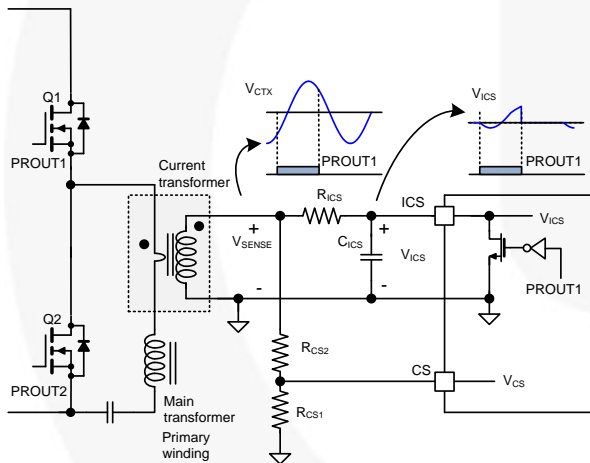
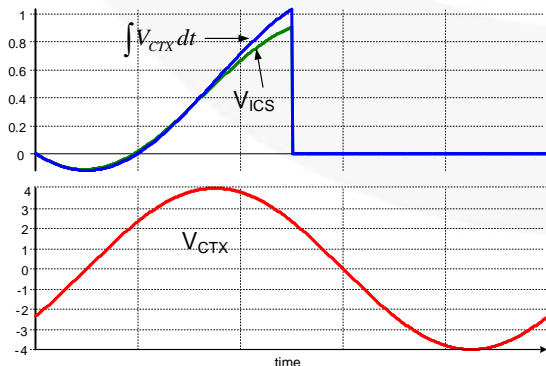

Figure 61. Current Sensing of FAN7688
Figure 62. Generating the Integral Signal ( $V_{ICS}$ ) from  $V_{SENSE}$
FAN7688 senses instantaneous switch current and the integral of the switch current as illustrated in Figure 61. Since FAN7688 is located in the secondary side, it is typical to use a current transformer for sensing the primary side current. While the PROUT1 is LOW, the ICS pin is clamped at 0 V with an internal reset MOSFET. Conversely, while PROUT1 is high, the ICS pin is not clamped and the integral capacitor ( $C_{ICS}$ ) is charged and discharged by the voltage difference between the sensing resistor voltage ( $V_{SENSE}$ ) and the ICS pin voltage. During normal operation, the voltage of the ICS pin is below 1.2 V since the power limit threshold is 1.2 V. The current sensing resistor and current transformer turns ratio should be designed such that the voltage across the current sensing resistor ( $V_{SENSE}$ ) is greater than 4 V at the full load condition. Therefore the current charging and discharging  $C_{ICS}$  should be almost proportional to the voltage across the current sensing resistor ( $V_{SENSE}$ ). Figure 62 compares the VICS signal and the ideal integral signal when the amplitude of  $V_{SENSE}$  is 4 V. As can be seen, there is about 10% error in the VICS signal compared to the ideal integral signal, which is acceptable for most designs. If more accuracy of the VICS is required, the amplitude of  $V_{SENSE}$  should be increased.
- (1) Non-ZVS Prevention: When the compensation voltage ( $V_{COMP}$ ) is higher than 3 V and  $V_{CS}$  peak value is smaller than 0.3 V, non-ZVS condition is detected, which decreases the internal compensation signal to increase the switching frequency.
- (2) Over-Current Protection (OCP2): When  $V_{CS}$  is higher than 3.5 V or lower than -3.5 V, over-current protection (OCP) is triggered. The instantaneous primary side current is also sensed on CS pin. Since the OCP thresholds on the CS pin are 3.5 V and -3.5 V as shown in Figure 66, the CS signal is typically obtained from  $V_{SENSE}$  by using a voltage divider as illustrated in Figure 61. 150 ns debounce time is added for OCP.